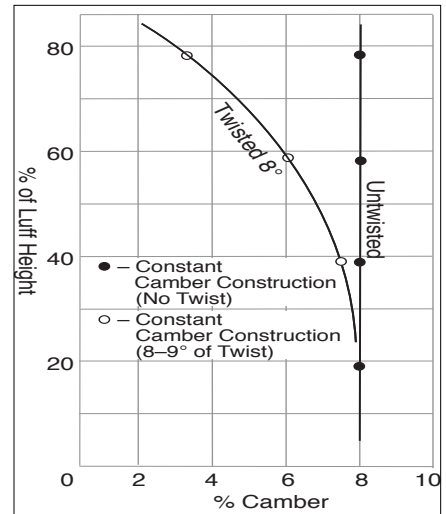
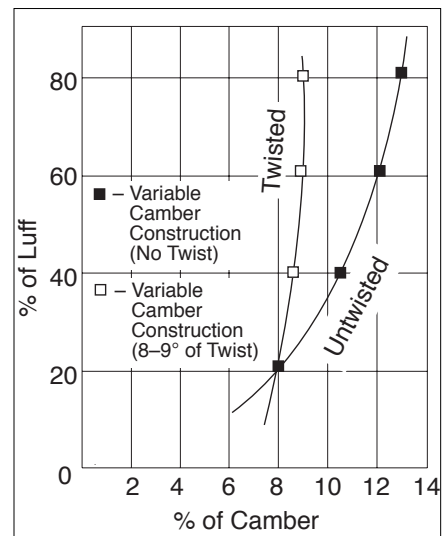

Figure 4
Figure 5
Follow the directions in the first article for calculating percent-camber. Plot the data as shown in Figures 4 and 5. This data will be for an untwisted sail.
There are two kinds of sails being produced today: 1) Constant camber sails that have the broad-seaming in each panel joint the same, producing an untwisted sail in which the camber is constant with height (Figure 4, "Untwisted") and 2) Variable camber sails in which different broad seam configurations in each panel joint make a sail in which camber varies with height (Figure 5, "Untwisted"). Some commercial varieties of this second configuration are labeled High Twist (HT) sails.
If, however, each sail is adjusted so that there is an 8-9 degree twist between the 20% chord and the 80% chord, the plot of camber versus luff height becomes as shown in the "Twisted" plots in Figures 4 and 5. Both sails respond